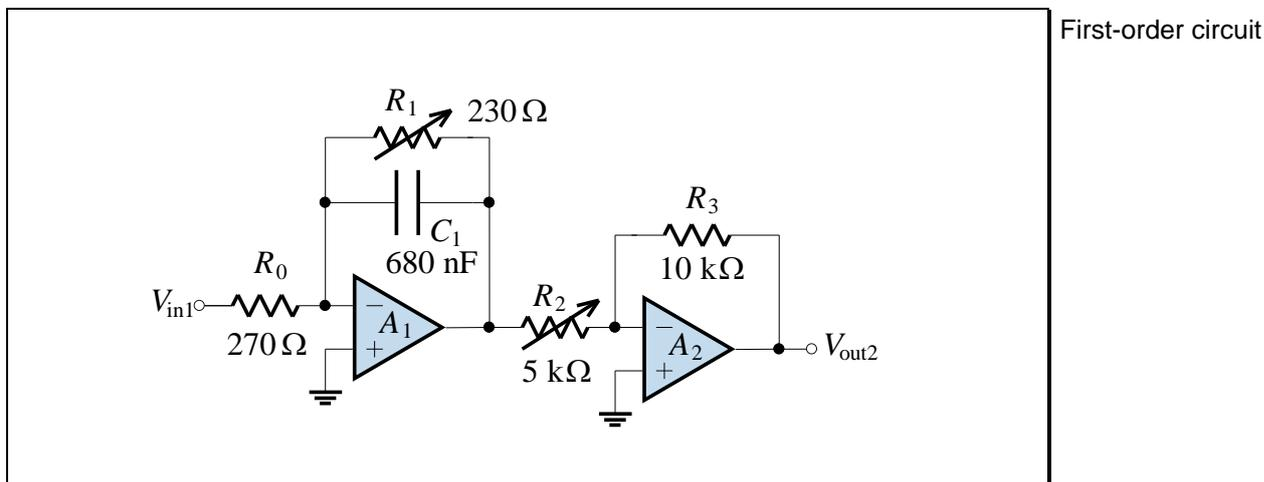
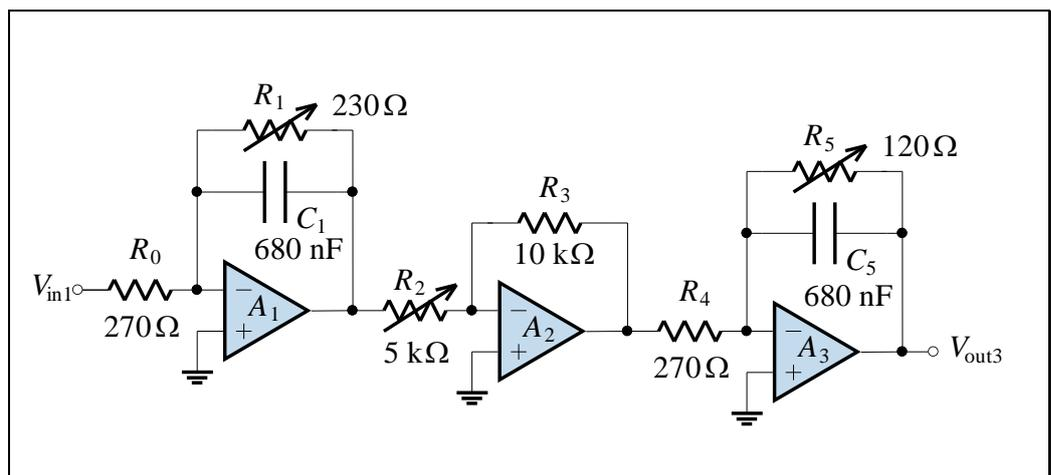

Figure L3.1
Figure L3.3
4. For the element values shown in Figure L3.1, calculate  $K_1$  and  $T_1$ .
1. Use MATLAB® to plot the theoretical frequency response and step response of the first-order circuit shown in Figure L3.1 and the second-order circuit shown in Figure L3.3.
1. Set up the SVF to give the circuit in Figure L3.3. Don't forget to remove the link joining Vout3 to Vin1'.
2. Examine the circuit in Figure L3.1 to determine its input impedance. Now set the AWG output Load setting to match the input impedance of the circuit. This will ensure that the amplitude settings on the AWG display will match the actual physical voltage appearing at the AWG terminals.